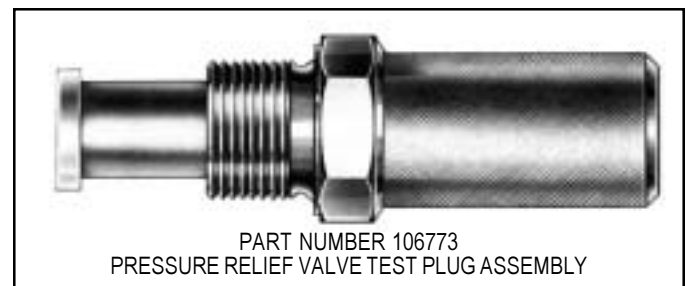

FIGURE 57 - PRESSURE RELIEF VALVE TEST PLUG ASSEMBLY
1. If the power steering gear is equipped with a pressure relief valve, it will be necessary to temporarily change its setting to a pressure above that of the power steering pump relief valve. **Only the Bendix pressure relief valve test pump assembly 106773 (Figure 57) must be used.**